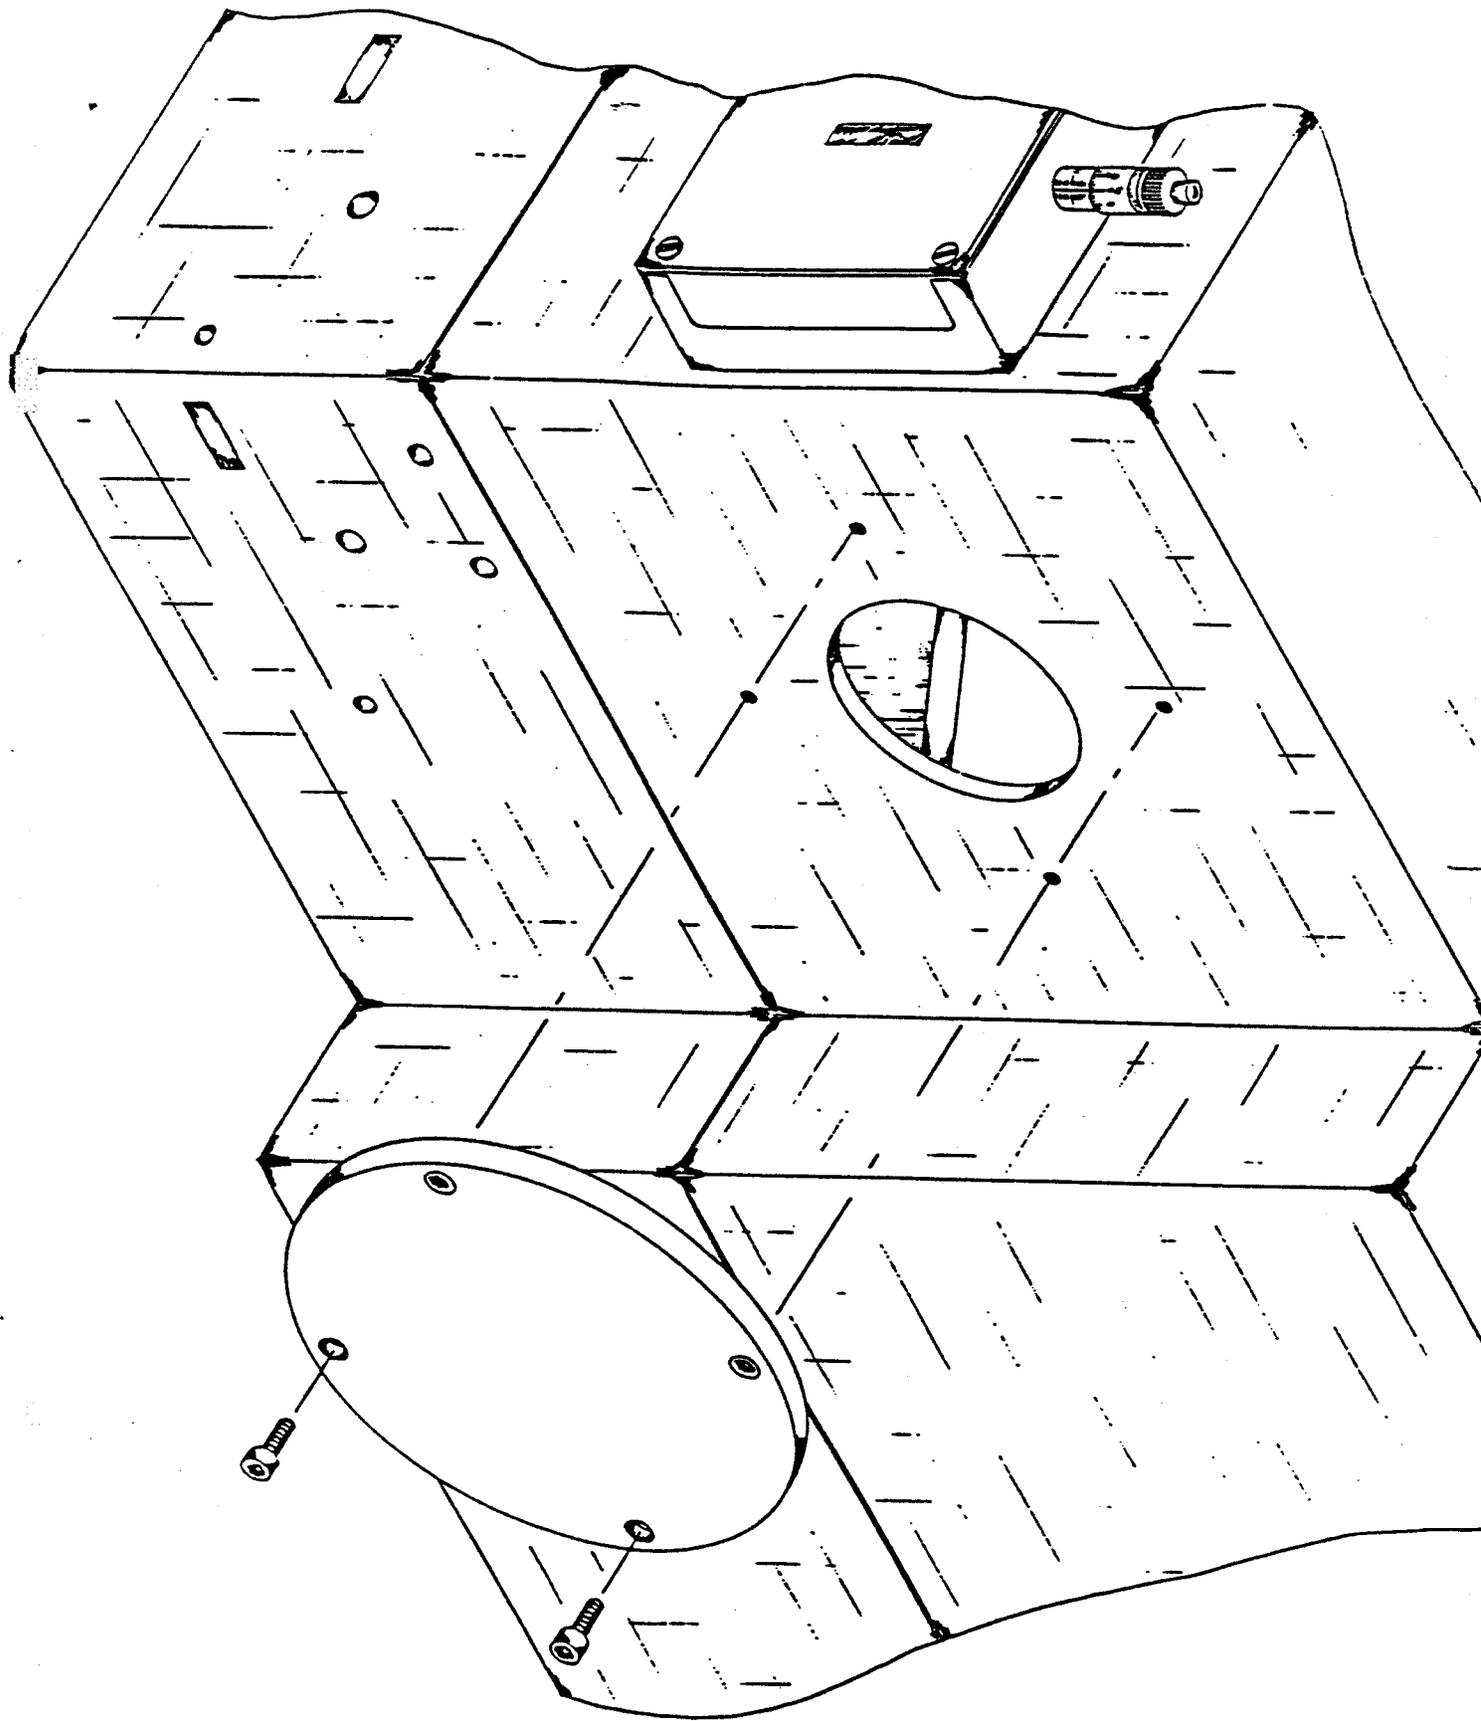

Figure 7
The cooled vidicon housing mates directly to the lateral exit plate via (4) bolt locations (fig.7).